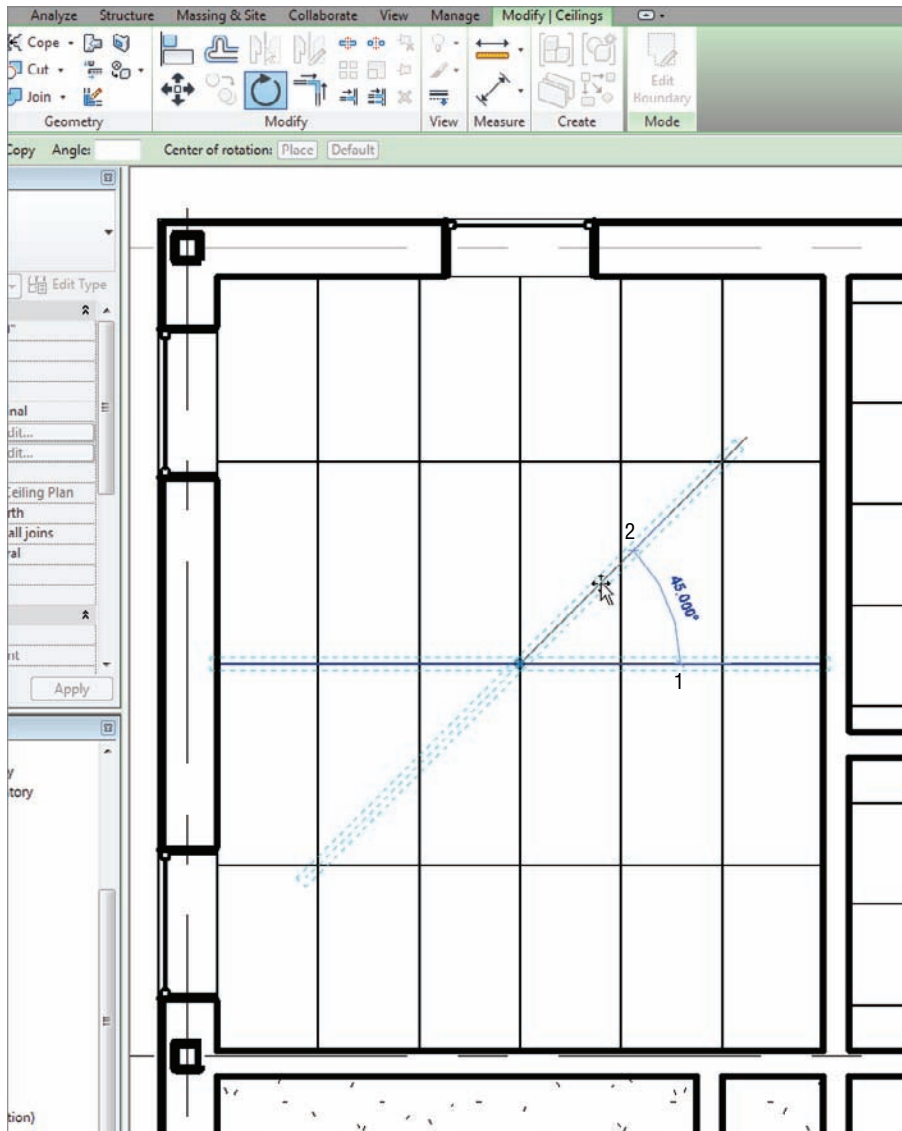

FIGURE 9.8 The Rotate process
4. Rotate the grid 45 degrees by using the two-pick method, as shown in Figure 9.8.